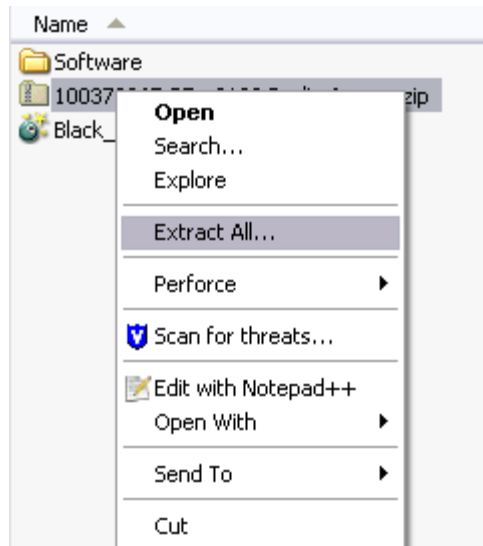

Figure 2-1: Extract All Files
4. Right-click the file and select **Extract All** from the menu, as shown in Figure 2-1.